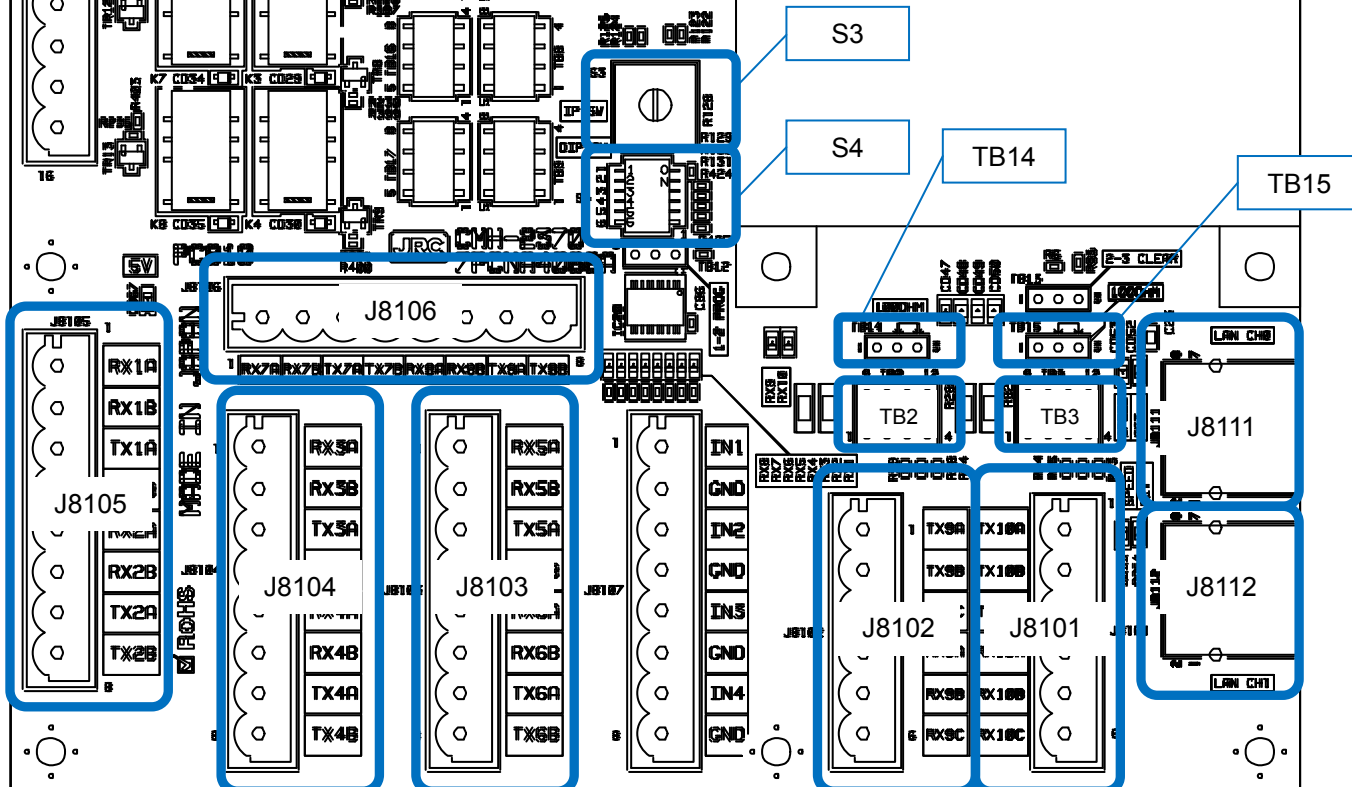

Fig 3-32:Connector location on CMH-2370
- See **Fig 3-32:Connector location on CMH-2370** about location of J8101-J8102 on CMH-2370.
Note : The location of TB2, TB3, TB14, TB15, Refer to **Fig 3-32:Connector location on CMH-2370.**
The location of J8111, J8112 and S4, refer to **Fig 3-32:Connector location on CMH-2370**
The location of S3, refer to **Fig 3-32:Connector location on CMH-2370**.